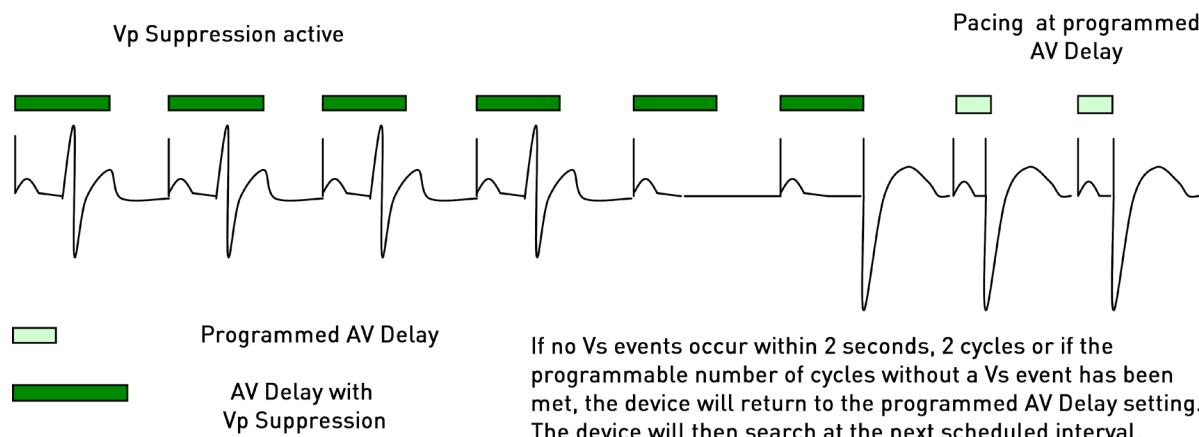

Figure 143: Reversion to DDD(R) mode
- A programmable number of cycles without a Vs out of eight cycles (Default is three out of eight cycles) An example of the device switching back to a DDD mode is shown in Figure 143.